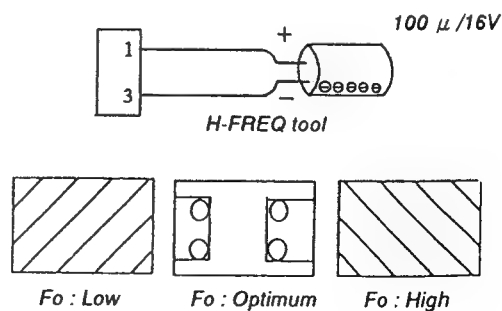

Fig. 1
5. Adjust 60H-FREQ so that the diagonal lines on the screen become vertical lines. (Fig. 1)
7. Adjust 50H-FREQ so that the diagonal lines on the screen become vertical lines. (Fig. 1)